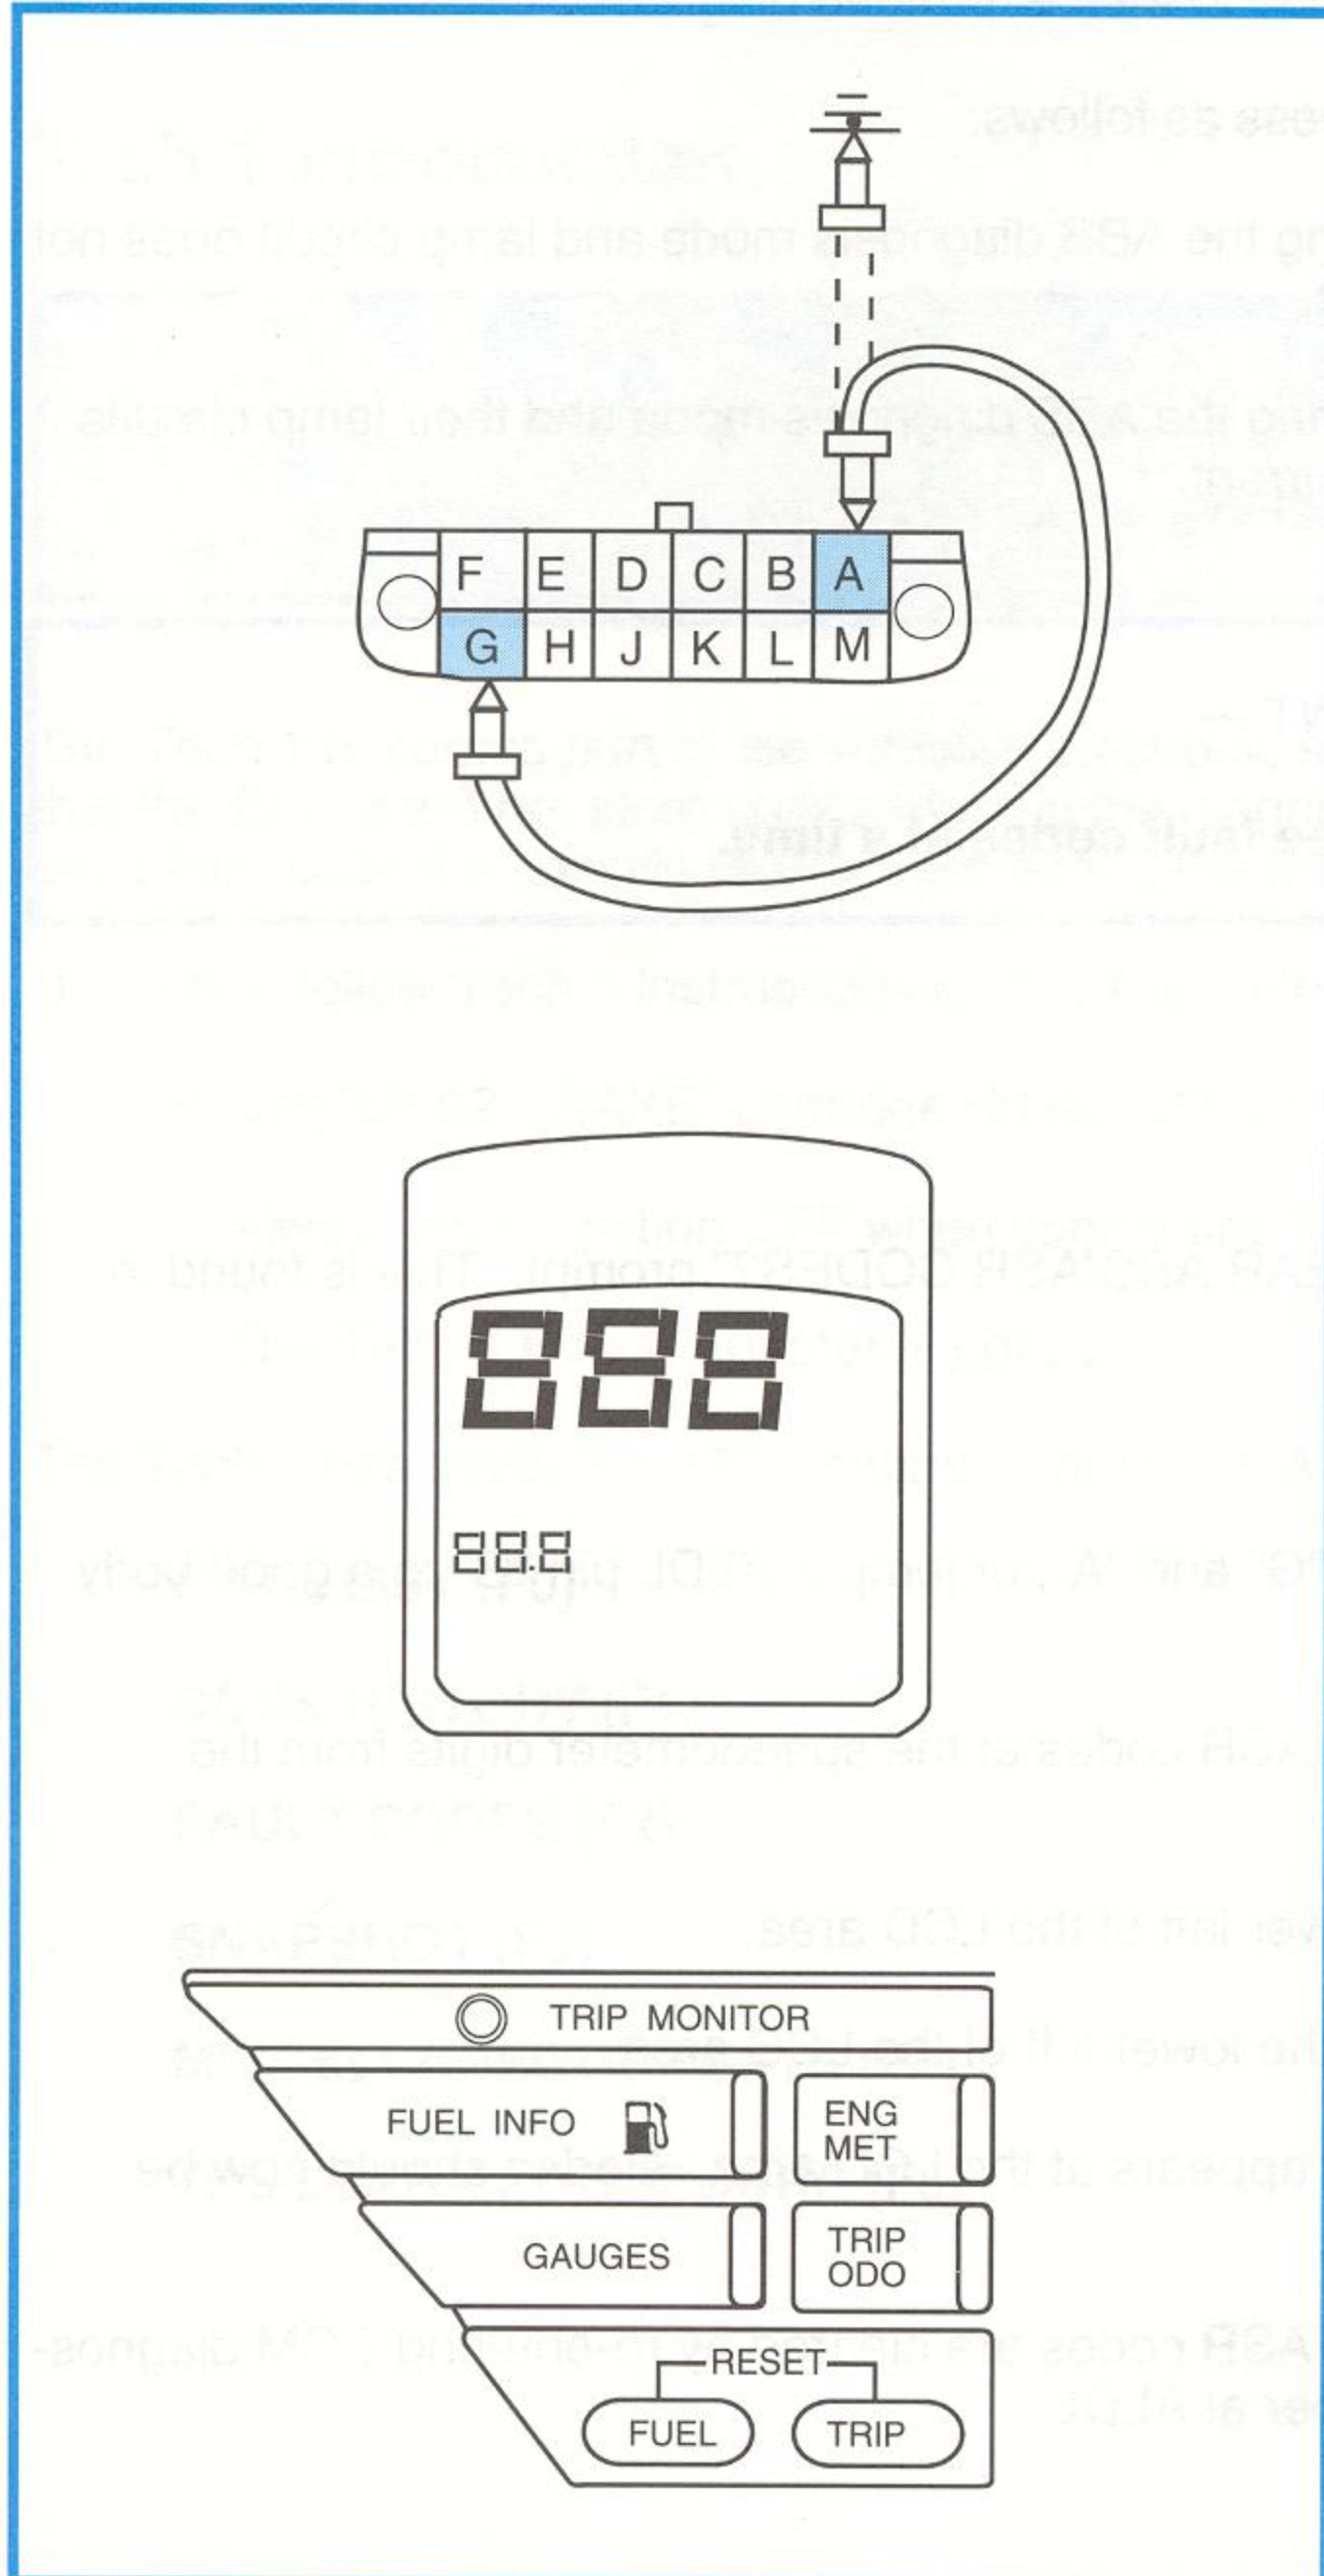

Figure 4-2, ABS/ASR Code Display Through the CCM
1. View the ABS/ASR codes at the speedometer digits from the Central Control Module (CCM) (figure 4-2). Codes do not flash at the ABS light as was found on previous systems. To view codes through the CCM, when a scan tool is not readily available: